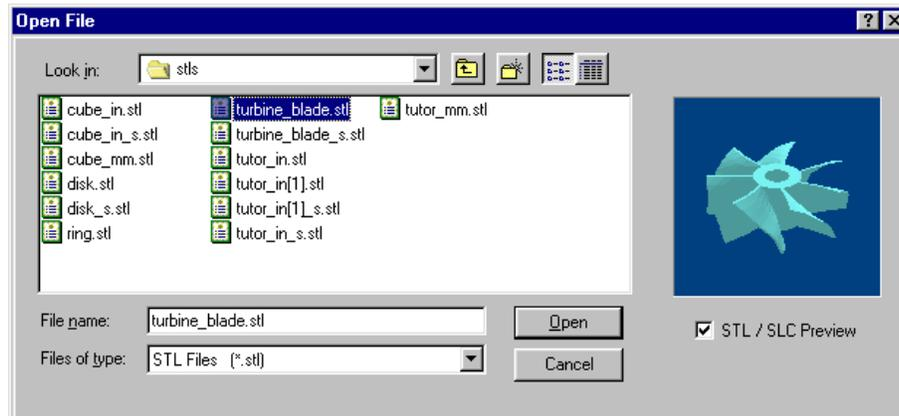

Figure 40. Open File Dialog
2. Click the "Open"...  icon on the Main Toolbar (or pull down the "File" menu and choose "Open..."), to bring up the "Open File" dialog as illustrated in Figure 40.